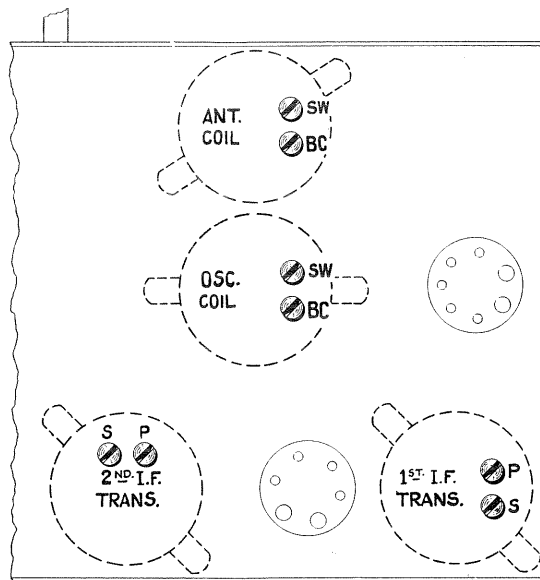

Figure 6—Location of Line-Up Capacitors
To properly align this receiver, it is essential that a modulated R. F. oscillator, such as Stock No. 9050, an output indicator and an alignment tool (Stock No. 4160) be available. Figure 6 shows the location of the various line-up capacitors.
Two transformers comprising four tuned circuits are used in the intermediate amplifier. These are tuned to 460 K. C. and the adjustment screws are accessible as shown in Figure 6. Proceed as follows:
- (b) With the Range Switch at the "in" position, adjust the two trimmers under the two R. F. coils, designated as BC in Figure 6, until a maximum deflection is obtained in the output meter. Then shift the Test Oscillator frequency to 600 K. C. The trimmer capacitor, accessible from the top of the chassis, should now be adjusted for maximum output while rocking the main tuning capacitor back and forth through the signal. Then repeat the 1720 K. C. adjustment.
- (c) Now place the Range Switch at the "out" position, shift the Test Oscillator to 18,000 K. C. and set the dial at 18M. Adjust the two trimmer capacitors designated as SW in Figure 6 for maximum output, beginning with the oscillator trimmer. It will be noted that the oscillator and first detector trimmers will have two positions at which the signal will give maximum output. The position which uses the lower trimmer capacitance, obtained by turning the screw counter-clock-